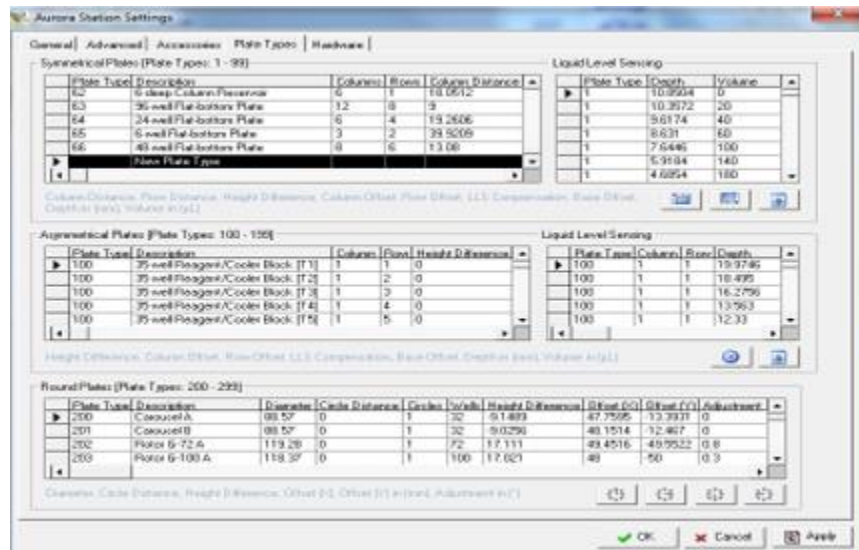

Figure 9-85 Creating New Plate Type Field under Aurora Station Settings Plate Types Tab
2. Next click on the settings icon in Aurora Station. Focus on the topmost table to test LLS parameters. To achieve this, click on the new plate type field created for test (*Figure 9-85 Creating New Plate Type Field under Aurora Station Settings Plate Types Tab*).